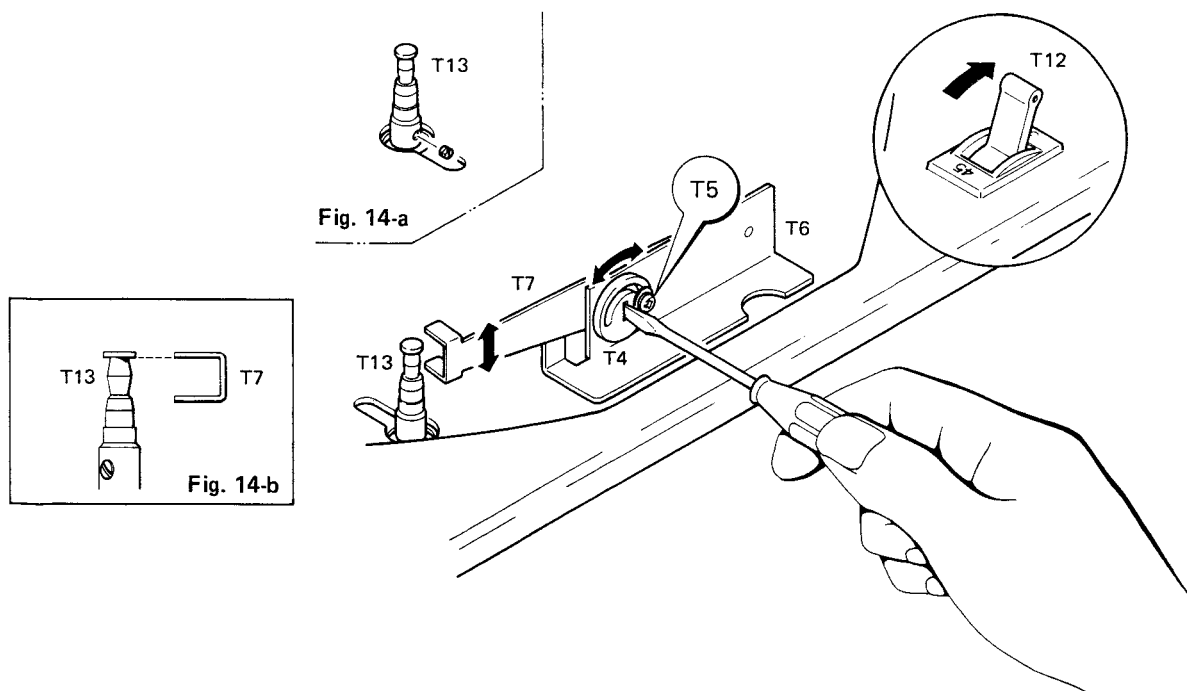

Fig. 14
1. Remove the screw (headless screw 3ø x 2 mm) fastening the pulley (T13) to the motor (T14). (cf. Fig. 14-a)
2. Adjust the speed select arm (T7) so that it corresponds to the pulley (T13) in height as shown in Fig. 14-b. To make this adjustment, loosen the pan head screw (3 x 6) (T5) on the speed select base and move the eccentric pin (T4). (cf. Fig. 14)